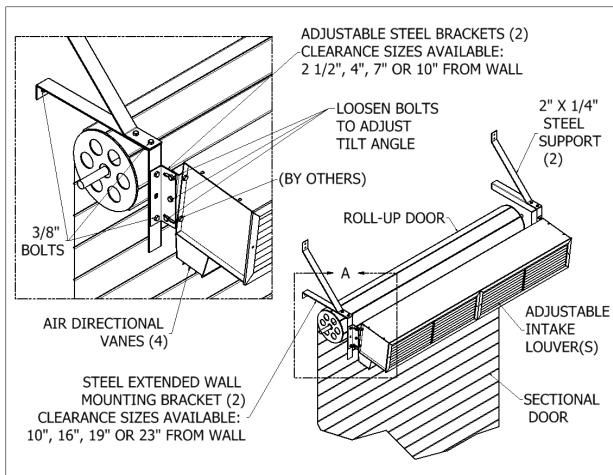

FIG. 6 (STD Shown)
6) installed per their supplemental instructions. (FIG. 6)
2. Adjustable Mounting Brackets: For installation of air curtain over drum-style roll-up door, use Extended Wall Mounting Brackets. (FIG. 6)